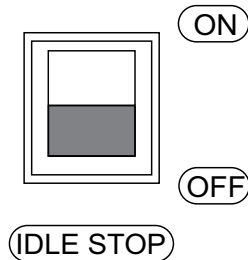

Figure 27. Idle Stop Rocker Switch (OFF)
- Place the idle stop switch (Figure 27) in the **OFF** position.